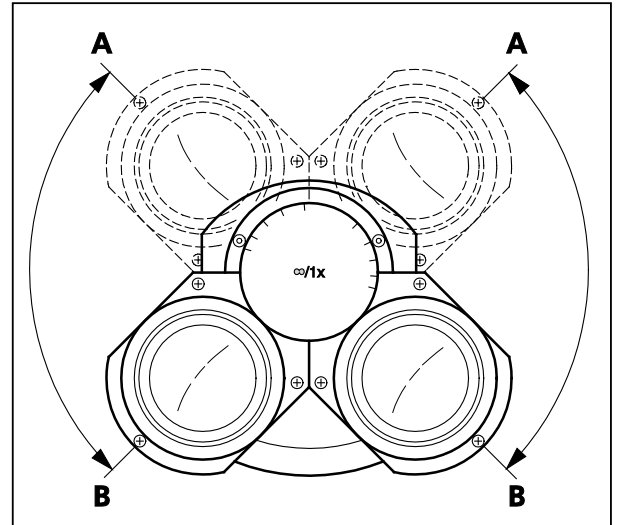

Fig. 2-12 **Adjusting the Viewing Height on the Binocular Tube**
- vary the viewing height by tilting the eyepiece tubes upward (Fig. 2-12/A) or downward (Fig. 2-12/B).